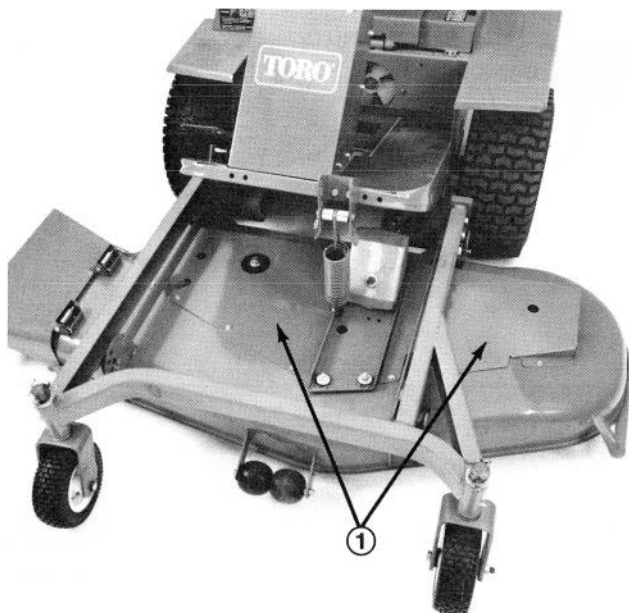

Figure 25
2. Remove capscrews securing right hand cover to top of cutting unit (Fig. 25). Remove cover from cutting unit.
2. Remove capscrews securing left and right covers to top of cutting unit (Fig. 25).
8. Reinstall covers with capscrews (Fig. 25).
2. Remove capscrews securing right hand cover to top of cutting unit (Fig. 25).